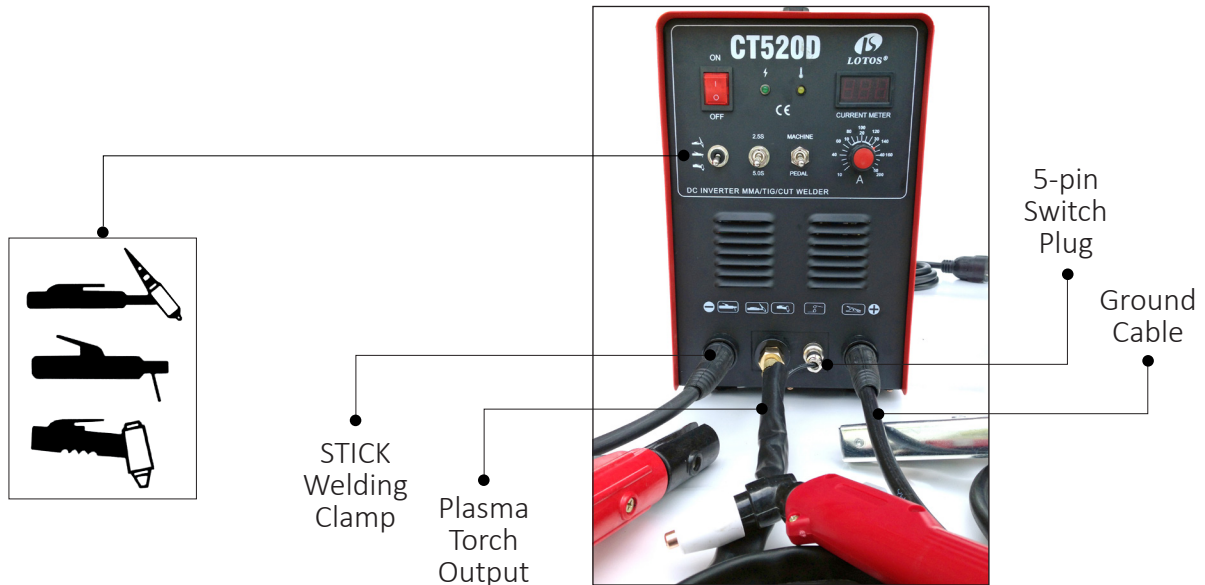

Figure 1.4
3. Connect your plasma cutting torch and ground cable to the front panel of the machine. Make sure the ground cable is connected on the right hand side where the “+” sign is located. (Figure 1.4)
- Set TIG Weld/Stick Weld/Plasma Cut switch to TIG Weld mode (refer to Figure 1.4, page 2).
- Set TIG Weld/Stick Weld/Plasma Cut switch to Stick Weld mode (refer to Figure 1.4, page 2).